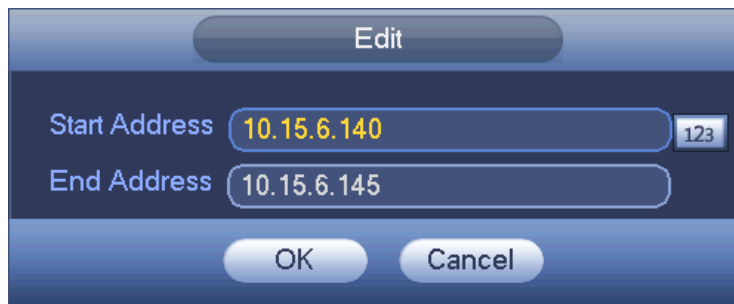

Figure 3-100
- Edit: Click it to edit start address and end address. See Figure 3-100. System can check the IP address validity after the edit operation and implement IPv6 optimization.